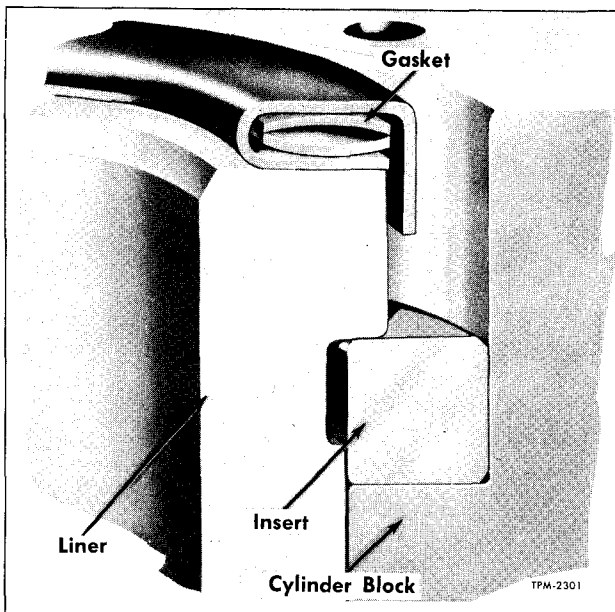

Figure 22—Compression Gasket at Cylinder Liner
a. Install a new compression gasket on each cylinder liner (fig. 22).
14. Remove cylinder head compression gaskets (fig. 22), oil seals, and water seals from block. Clean the cylinder head surface which mates with cylinder block.
- a. Install a new compression gasket on each cylinder liner (fig. 22).